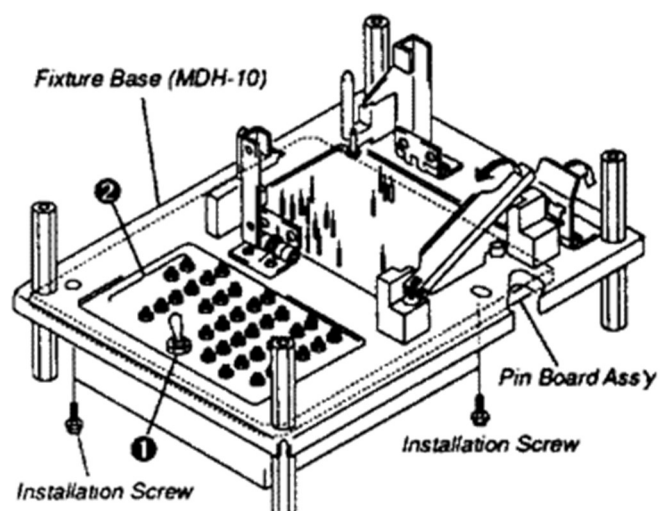

Fig. 2-2-1 Installation to Fixture
(1) Configuration (Refer to Fig. 2-2-1)